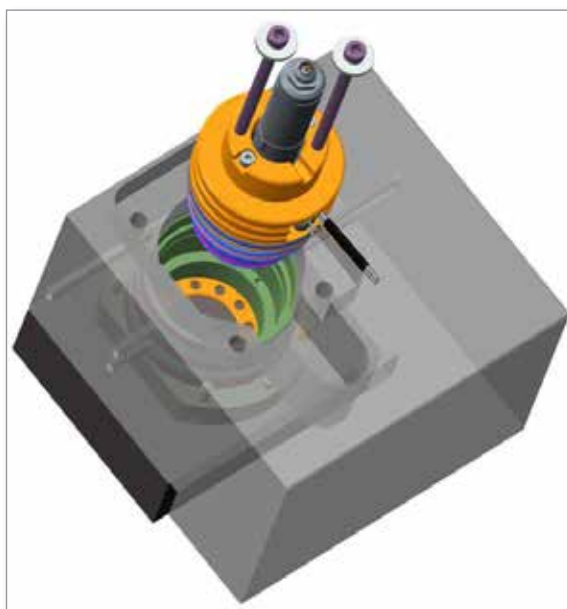

Figure 11-23 Install Slimstack unit
4. Turn the manifold plate and carefully install the Slimstack unit into the manifold plate using screws with washers. See Figure 11-23.